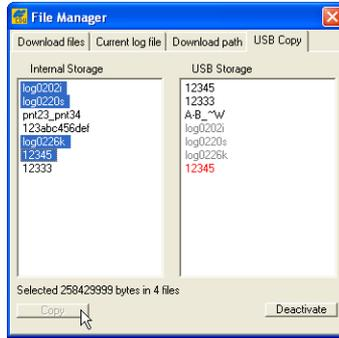

Figure 4-8. Copying Data Files to a UMS device
8. In the **Internal Storage** box, select the file(s) to download (Figure 4-8 on page 4-7). To select multiple files, hold down the **shift** key and click on sequential files to select several files at once or hold down the **Ctrl** key and click on individual files.
- Click **Copy**. If any file names appear in red in the **USB Storage** box, then the **Copy** button will be unavailable (Figure 4-8).